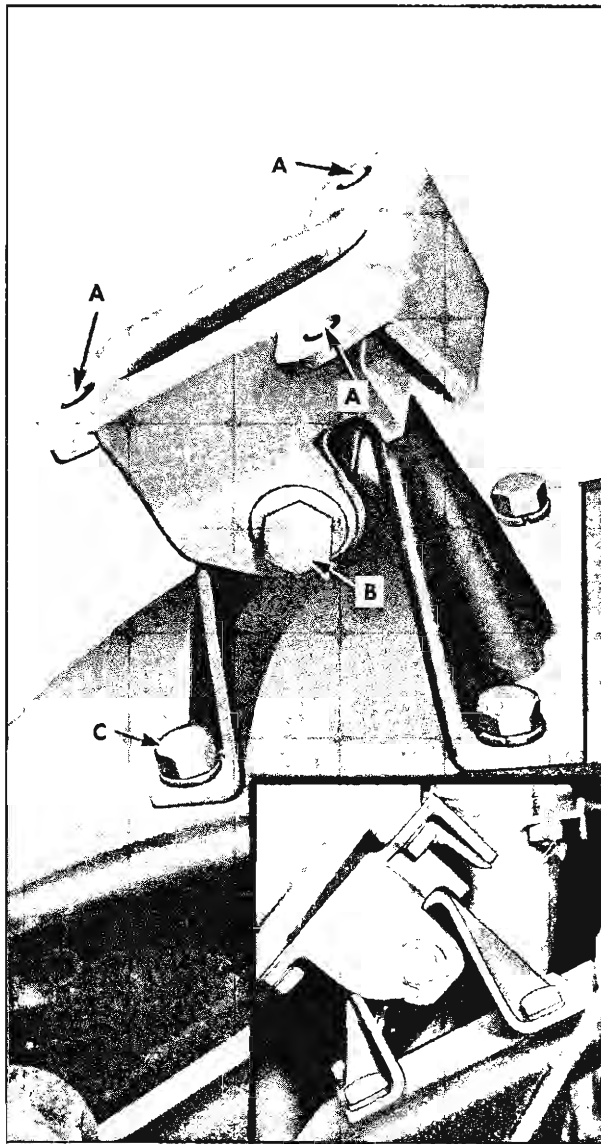

Fig. 107—Front Engine Mounts
2. Remove fuel pump and remove nut, bolt and washer at "B" (fig. 107) from mount.
3. Raise engine and remove three bolts and lockwashers at point "A" (fig. 107), bolts may be removed from bottom of vehicle with a universal socket wrench, using a long extension.
NOTE: Do not remove bolts at "C" location for engine mount removal (fig. 107).
at point "A" (fig. 107) and lower engine into place.
5. Replace long bolts, washers and locknuts as shown in Figure 107 inset.
21. Raise engine slightly. Remove front mounting bolts (see figure 107). Remove transmission mounting block to frame cross-member bolts.